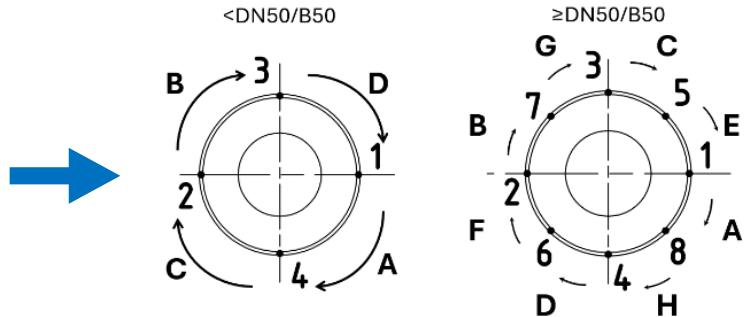

Fig. 5: Root layer
b) Next, a root layer is pre-welded alternately using the pilgrim step method (Fig. 5). Continuous cooling must be ensured during this process.
c) After closing the root layer, the fill / cover pass is completed on both sides using the pilgrim step method (Fig. 5). The opposite side of the welding zone is continuously cooled during the welding process.